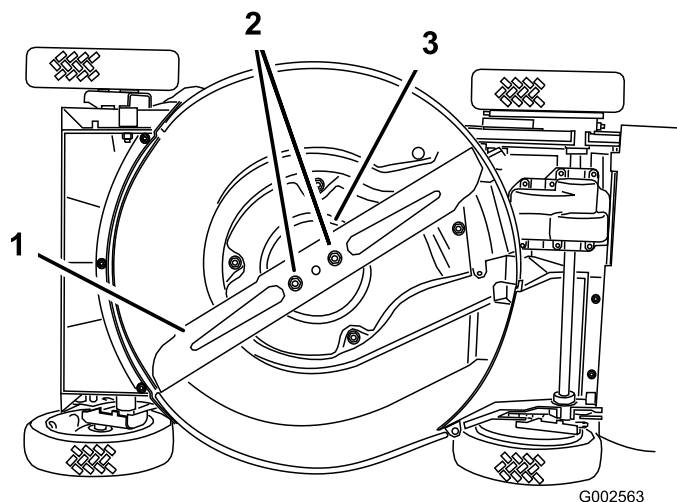

Figure 33
4. Tip the mower onto its **right** side (Figure 33).
Grasp the end of the blade using a rag or a thickly padded glove. Remove the blade nuts, the anti-scalp cup, and the blade (Figure 33).
5. Remove 2 blade nuts, the anti-scalp cup, and the blade (Figure 33).